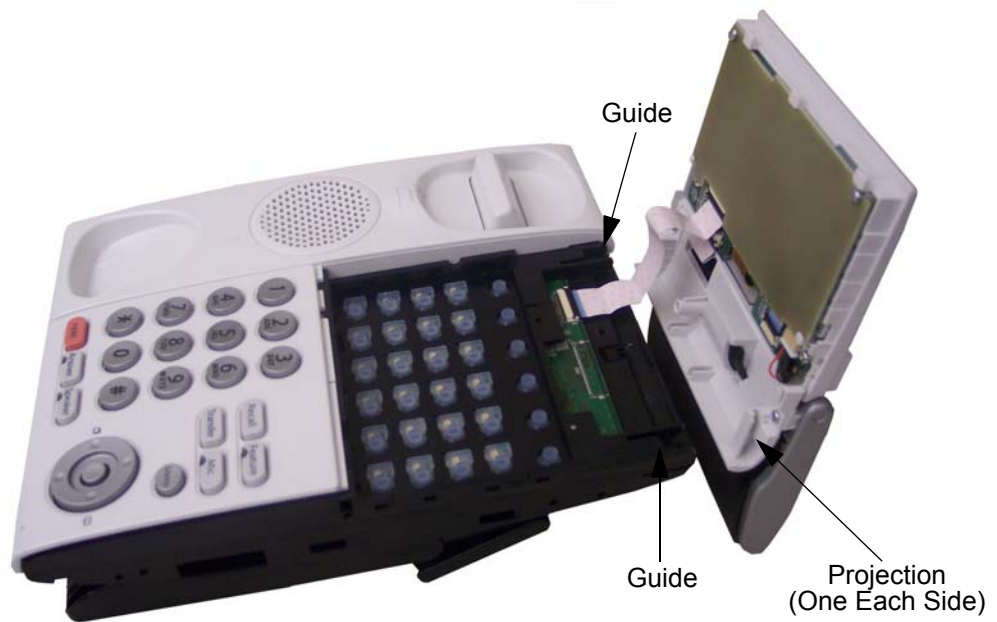

Figure 5-92 Ribbon Cable Installed
7. Plug ribbon cable on back of 8LKD (LD)-L UNIT into connector until pressure is felt.
8. Press down on the black bar to lock the cable into place (refer to Figure 5-92 Ribbon Cable Installed on page 5-90).